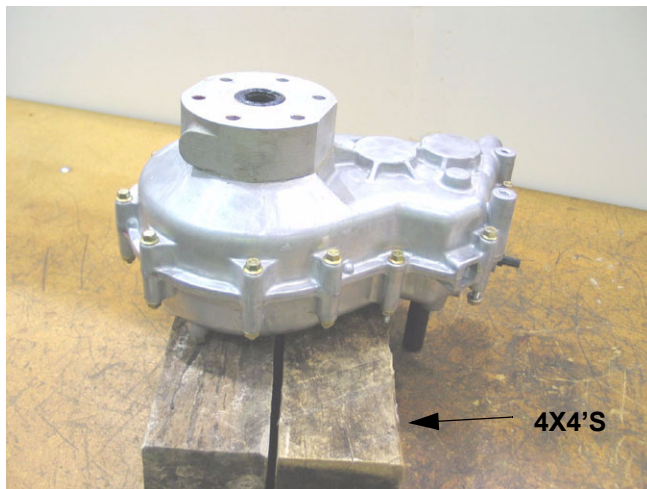

Figure 11.5
- 11.5. Position the housing differential lock side-up on 4x4 dimensional lumber, or a similar support. See Figure 11.5.